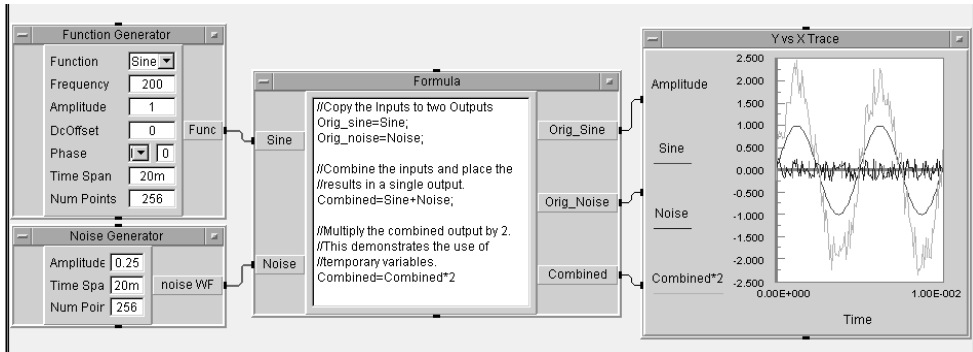

Figure 5.8. Multiline Formula display of Combined Waveforms
16. Change the number format used on the Amplitude (Y) axis to a fixed format with three fractional digits via the Properties box, Number selection.
17. Connect the Function Generator and the Noise Generator output pins to the Formula Object input pin. See Figure 5.8.
18. Connect the Formula Object output pins to the XY Trace input pins as shown in Figure 5.8 above.